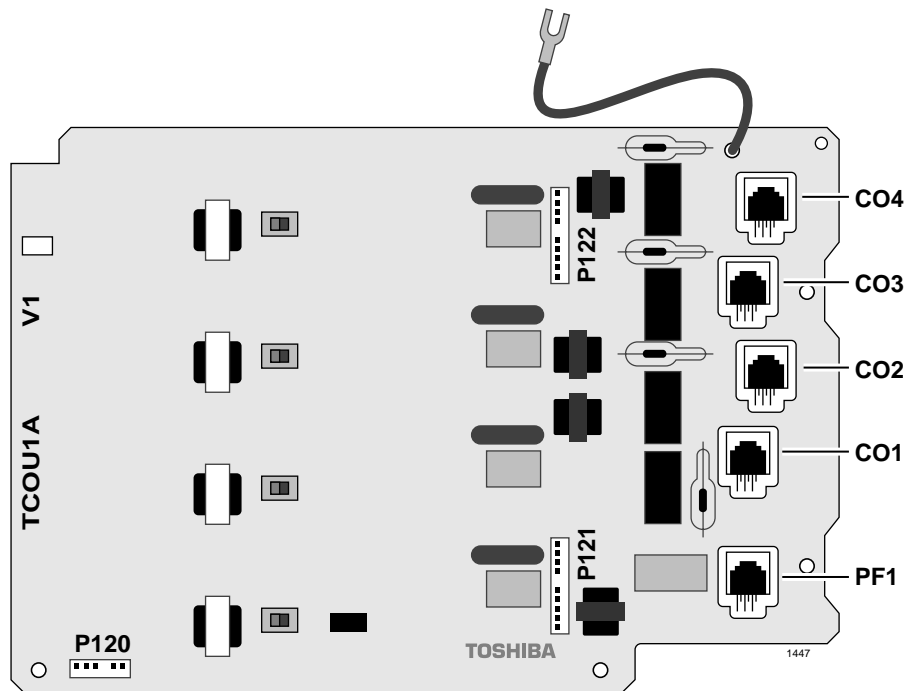

Figure 3-21 DK40i Loop Start CO Line Board (TCOU)
The optional TCOU PCB installs onto the TMAU motherboard. (See Figure 3-21 and Table 3-7 for information on controls, indicators and connectors.)
5. Slip the spade connected to the green/yellow wire under the second screw from the right on the TPSU power supply (see Figure 3-21). Tighten the screw until the spade is snugly secured.
2. Loosen and remove screws securing the TCOU to the TMAU (see Figure 3-21).